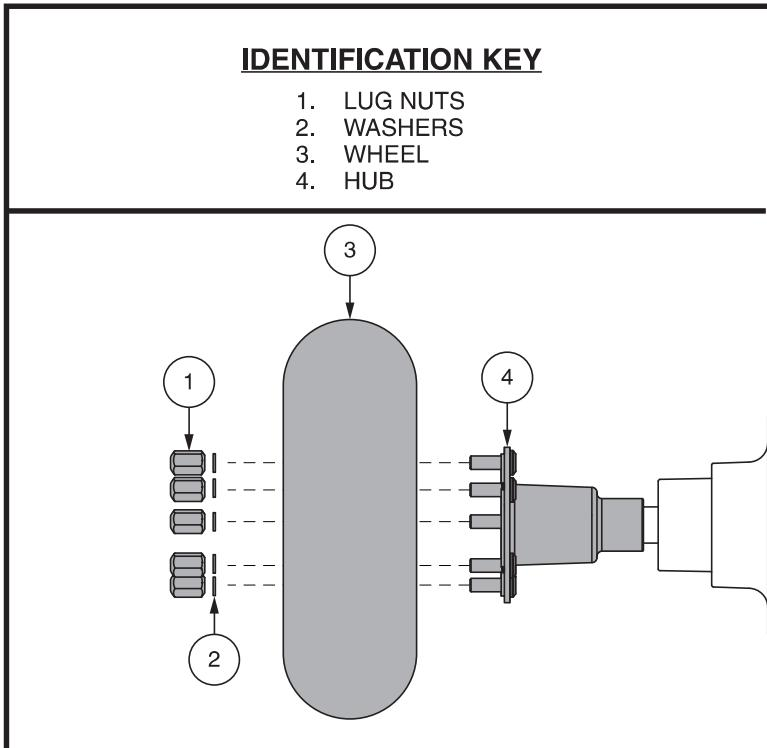

Figure 26. Wheel Removal
3. Remove the lug nuts and washers from the hub. See figure 26.